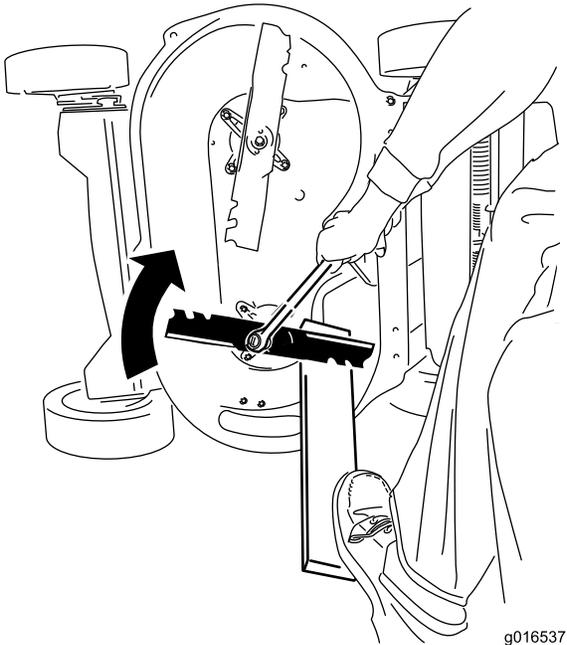

Figure 5
2. Steady the blade with a block of wood, and turn the blade bolt clockwise with a torque wrench as shown in Figure 5.